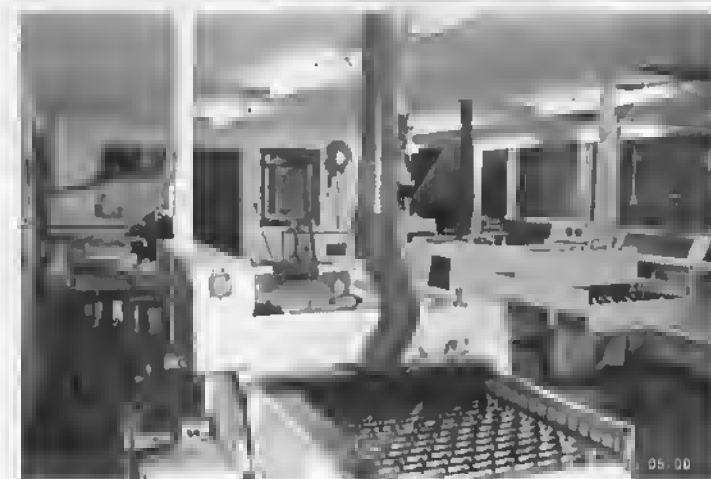

Fig.9.5 Etching machines.
5. Etching The sheet is then ready for etching. The etching machine (Fig.9.5) sprays the warm etchant (ferric chloride) onto both surfaces. By actively spraying the chemical onto the surface etching time is reduced as the unwanted chlorides, produced by the etching process, do not clog up the surface and retard the progress. Fresh etchant is also constantly being applied. The disadvantages of the relatively static emersion technique used at home are thus avoided. Reduced etching times are desirable to avoid undercutting of the resist.